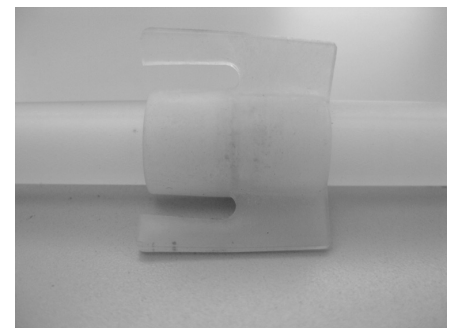

Figure 8
4. **Inner Tube, Center Support & Shaft Sleeve Installation** - for all models - Reinstall the inner tube, center support (if used) and shaft sleeve (items 13, 14 & 15). Slide the shaft sleeve onto the shaft. The shaft sleeve is self-positioning so slide it up as far as it will go on the shaft. Reinstall the inner tube with center support (if used) over the shaft and shaft sleeve. The double o-ring side seats up into the head with a slight twisting motion. Make sure the inner tube is seated properly. The bottom of the inner tube will be flush with the bottom of the outer tube when properly seated.
5. **Intake Tube Installation** - for EFP & EFV models - Install the intake tube (item 16). Make sure the center support (if used) is installed correctly on the inner tube. The center support has a slight taper that allows the outer tube to slide easily over it. *See figure 8.* Slide the intake tube with external threads over the shaft, shaft sleeve, inner tube and center support (if used) up into the head (item 6). Turn the intake tube counter clockwise (left hand thread) to tighten it into the head. Hand tighten.